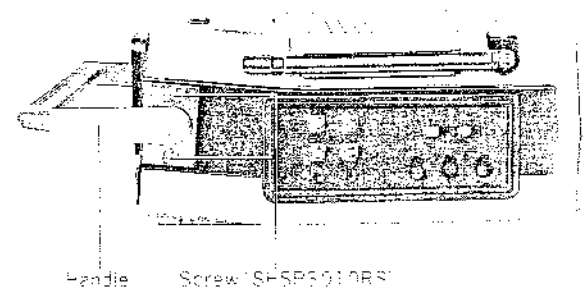

Fig. 4
1. Unfasten 4 screws fastening handle indicated in Fig. 4. (both side of handle)